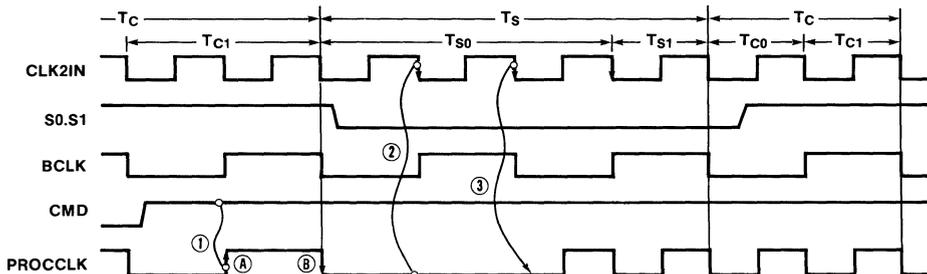

Figure 1.4 Sequence Diagram for Low to High Frequency Transition
In Figure 1.4, the falling edge (A) of PROCCLK latches command inactive as denoted by sequence (1). Edge (B) disables BCLK on the PROCCLK line. In sequence (2), edge (C) of CLK2IN latches PROCCLK low. Edge (D) then enables CLK2IN on the PROCCLK line as denoted by sequence (3). If sequence (2) does not meet setup time requirements of edge (C), then the state of PROCCLK is sampled as being high in sequence (2). In this case, edge (D) samples PROCCLK low and edge (E) enables CLK2IN on the PROCCLK line. In this case also, PROCCLK does not violate the min and max 80286 CPU clock specifications.